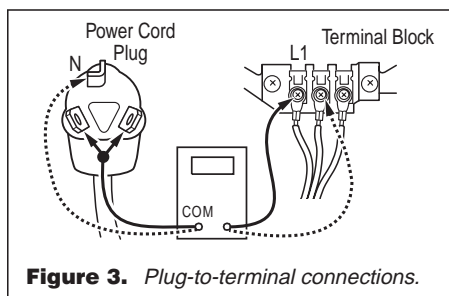

Figure 3. Plug-to-terminal connections.
1. With an ohmmeter, check for continuity between the neutral (N) terminal of the plug and the center contact on the terminal block. See figure 3.
2. In a similar way, check which terminal of the plug is connected to the left-most contact on the terminal block and make a note of it. This will be L1 (black wire) in the wiring diagram. See figure 3.